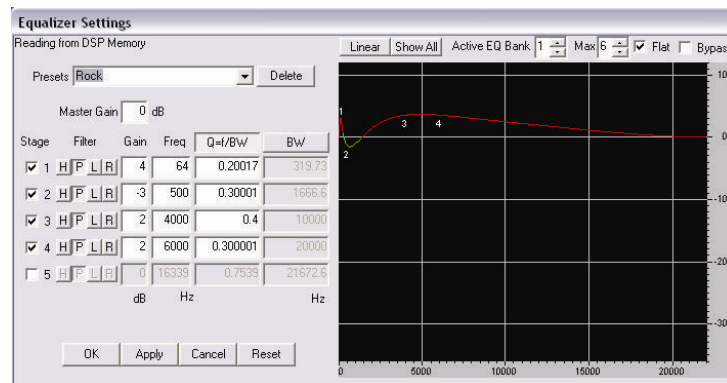

Figure 16.4: Configurable EQ GUI with Drag Points
- Contains an easy to use GUI, with drag points, see Figure 16.4